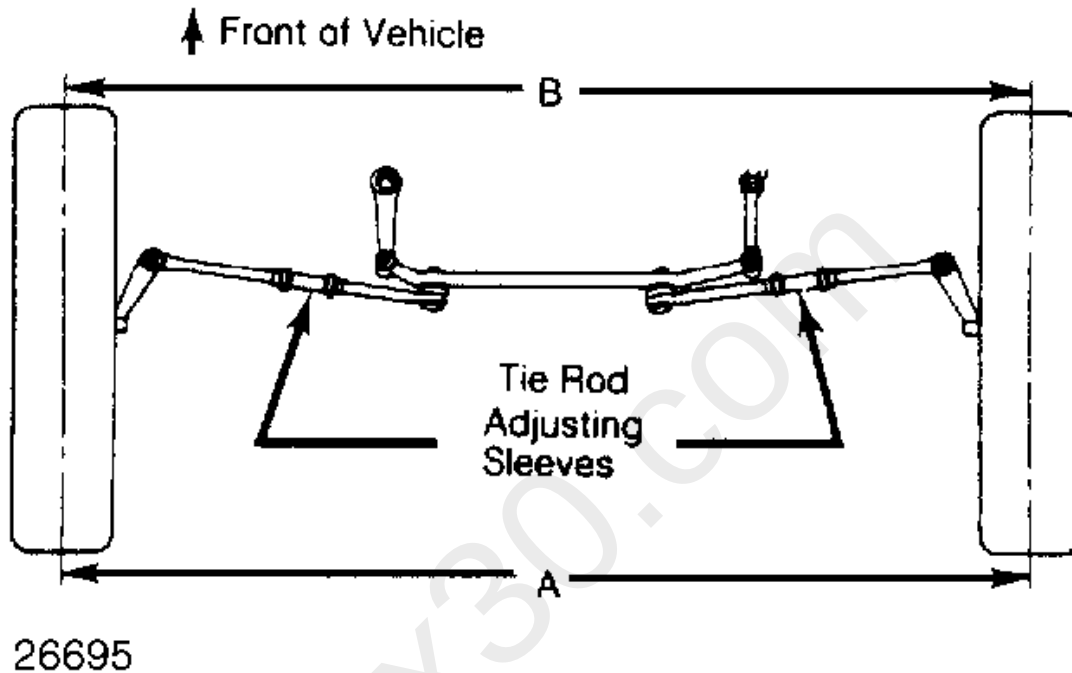
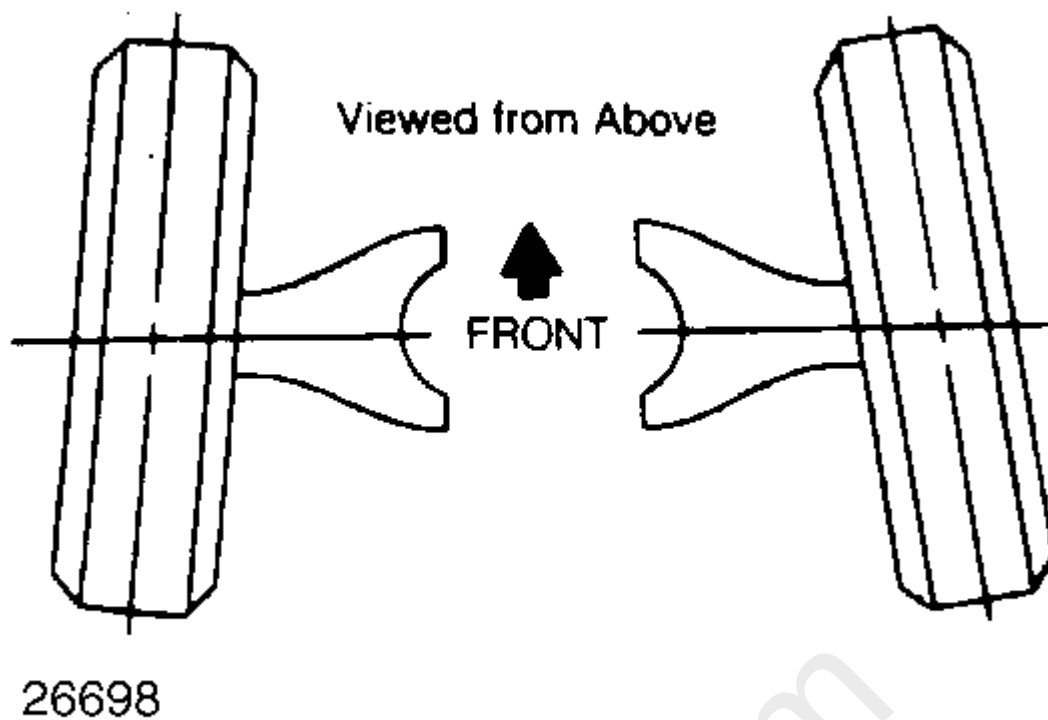

Fig. 2: Adjusting Tie Rod Sleeves (Top View)
Fig. 5: Wheel Toe-In (Dimension A Less Dimension B).
- Steering wheel must be centered with wheels in straight ahead position. If required, shorten one tie rod adjusting sleeve and lengthen opposite sleeve (equal amount of turns). See Fig. 2.
- 1) Measure toe-in with front wheels in straight ahead position and steering wheel centered. To adjust toe-in, loosen clamps and turn adjusting sleeve or adjustable end on right and left tie rods. See Fig. 2 and Fig. 5.